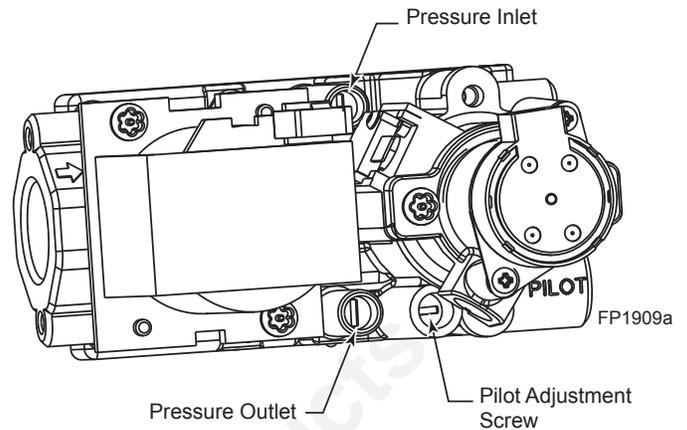

Figure 29 - Signature Command Valve
4. To check gas pressures at valve, turn captured screw counter clockwise 2 or 3 turns and then place tubing to pressure gauge over test point. Turn unit to high. *Figure 29.* After taking pressure reading, be sure and turn captured screw clockwise firmly to reseal. Do not over torque. Check test points for gas leaks.